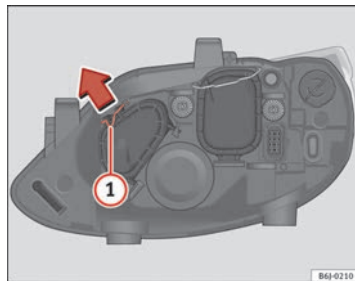

Fig. 157 Side lights
- Move the loop ① in the direction of the arrow and remove the cover ⇒ fig. 157.